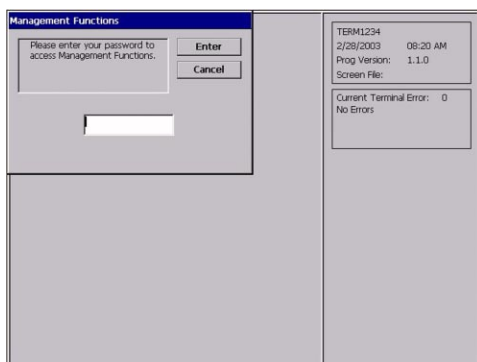

Figure 5-2. Enter your Master or User password at the Management Functions screen.
3. Enter the Master or User password at the password entry display (see Figure 5-2 below).